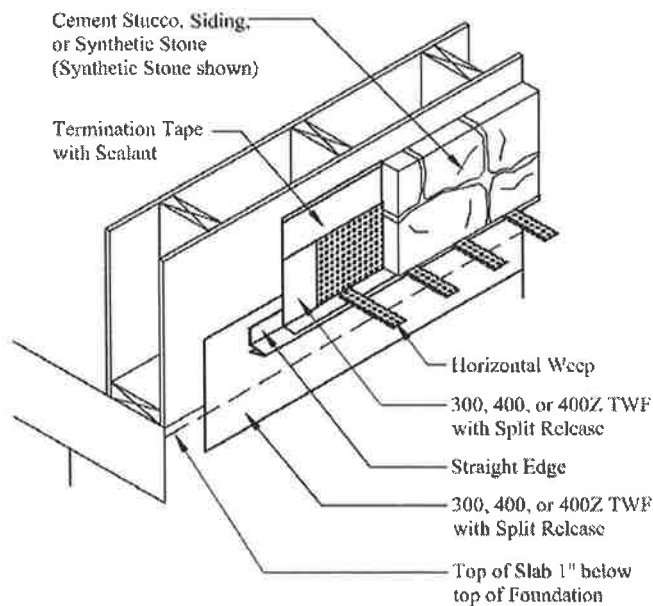
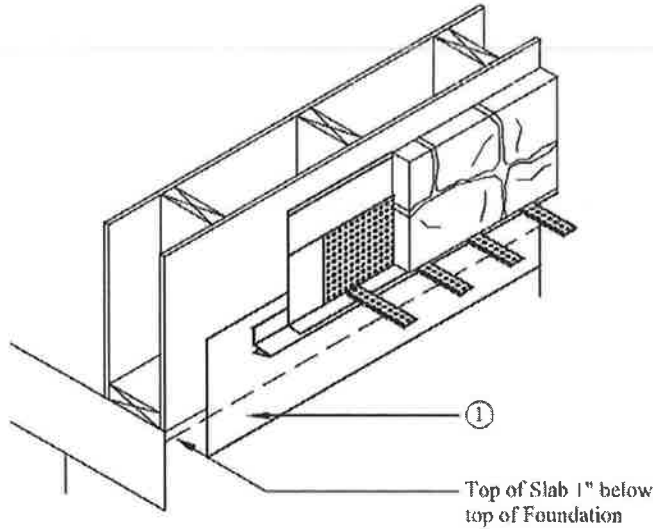

Fig. 1
Fig.2
The elevation for draining the TWF must be above the anticipated snow and rain loads. These instructions are written for an anticipated snow load of 6-inches. Interpret the text to other climate conditions using Fig. 1 as a guide and reference.
Step 1 Determine the height of waterproofing needed to protect the wall above the slab from anticipated snow and rain loads. The height of this protection will vary regionally. If the information is not available in the construction documents, refer to the governing building code for guidance. Figs. 1 and 2 depict protection for an anticipated snow load of 6-inches. Part 1 in Fig. 2 waterproofs the snow load area (continuing waterproofing protection below Part 1 is not shown).
- Chalk a line on the face of Part 1 Fig.2 indicating where the top edge of the wall leg will be when the forward edge is aligned at or above the height of the anticipated snow load.